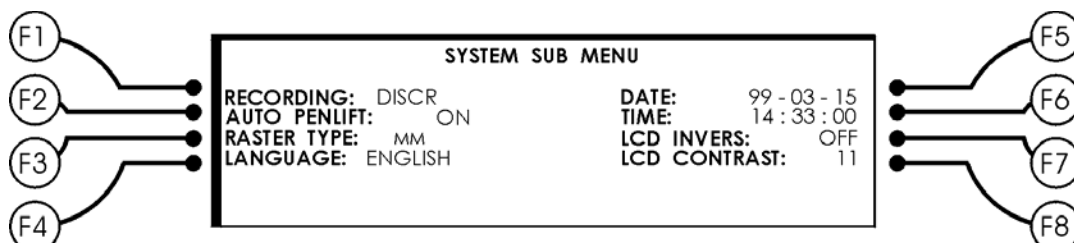

Figure 5.7 System submenu
Note: When autopenlift is on (see figure 5.7) the pen can go up even though the menu shows pen down.
- F8 Pressing F8 enters the System submenu see figure 5.7
This submenu can be activated from within the 'system' menu with F6. Figure 5.7 gives an example of the display.